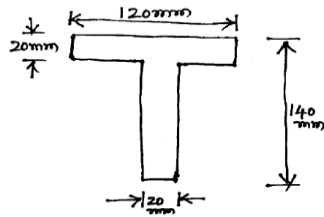

Fig. Q6(b)
- b. A simply supported beam of T section as shown in Fig. Q6 (b) is subjected to bending moment of 12 kN-m. Determine the maximum tensile and compressive stress. Also draw the bending stress distribution diagram. **12** (2:3:1.3.1)